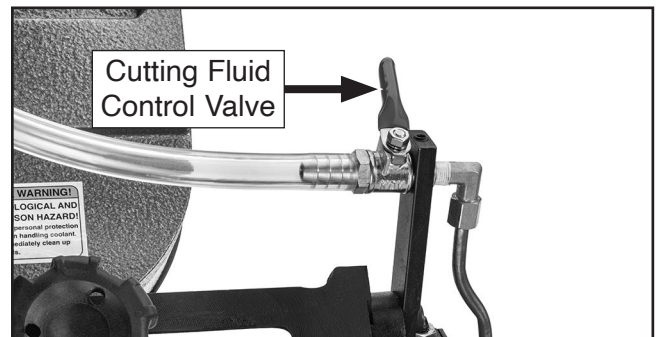

Figure 30. Location of cutting fluid control valve.
5. Open cutting fluid control valve (see **Figure 30**).